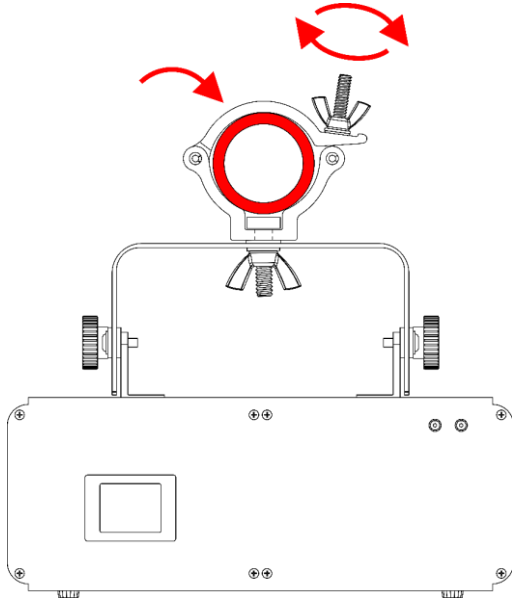
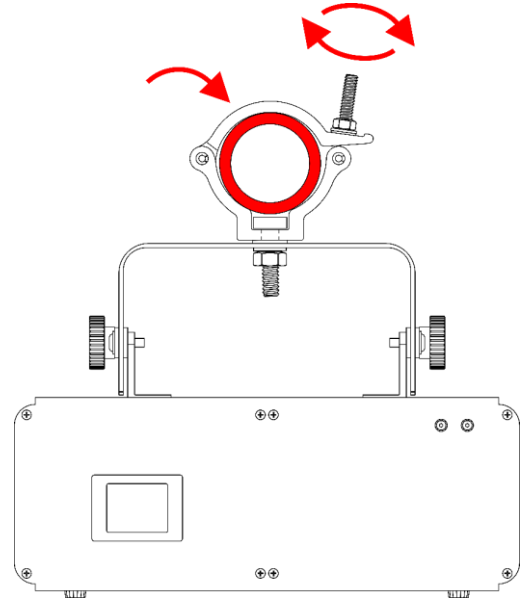

Fig. 07
Fig. 08
07) Put the device, with the installed load, around a tube ($\varnothing$ 48–51 mm) and close the **lock (11)**. See Fig. 07 or Fig. 08.
08) Put the **hex nut (01)** (fixed installation, Fig. 08) or the **wing nut (02)** (temporary installation, Fig. 07) on the **hex bolt (03)** and turn it clockwise, to tighten the device around the tube.